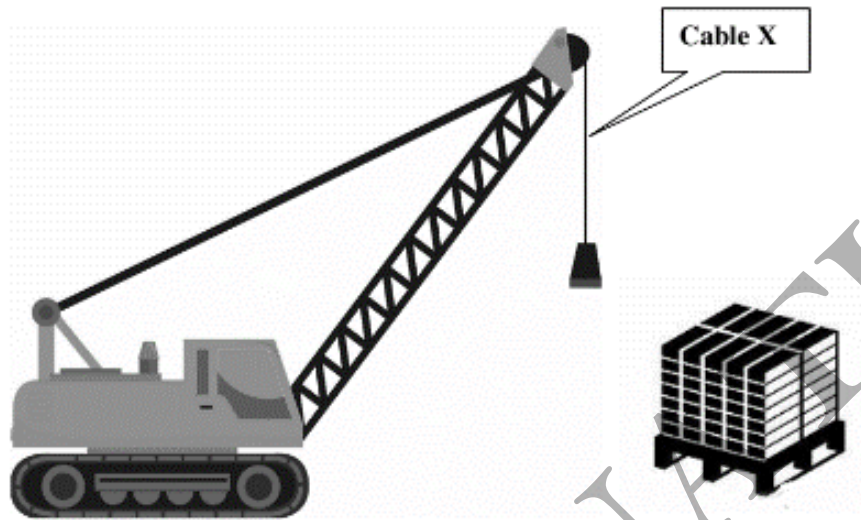

Figure Q5: A Crane.
- b) Consider a scenario where a crane uses a special cable, referred to as 'cable X', to lift bricks weighing 89000 N , as depicted in **Figure Q5** (shown over the page). The cable, made from a strong material, has a diameter of 0.0254 m and an initial length of 15.24 m before lifting. The material of the cable has a modulus of elasticity, E of $2.41361 \times 10^{11}\text{ Pa}$. Based on this information, calculate the following: